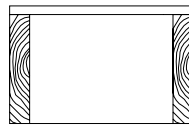

Figure 23E
5. Use (2) 14-1/2" [368 mm] and (2) 17" [432 mm] 2" [51 mm] x 12" [305 mm] to construct the box sides. Nail the 3/4" [19 mm] plywood fixture to the box. See **Figure 23E**.